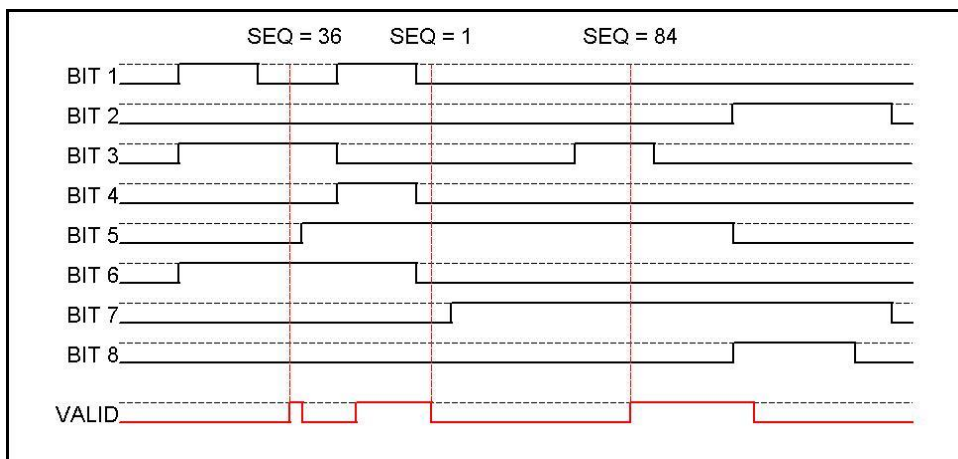

Figure 3-31, Typical Dynamic Sequence Control Scenario
The modulation function is turned on immediately after you press the Modulation button in the Functions group on the right side of the generator. By default, modulation is turned off and therefore, the output generates carrier wave (CW). The first modulation screen is shown in Figure 3-31. The modulation functions and their parameters are described as follows: